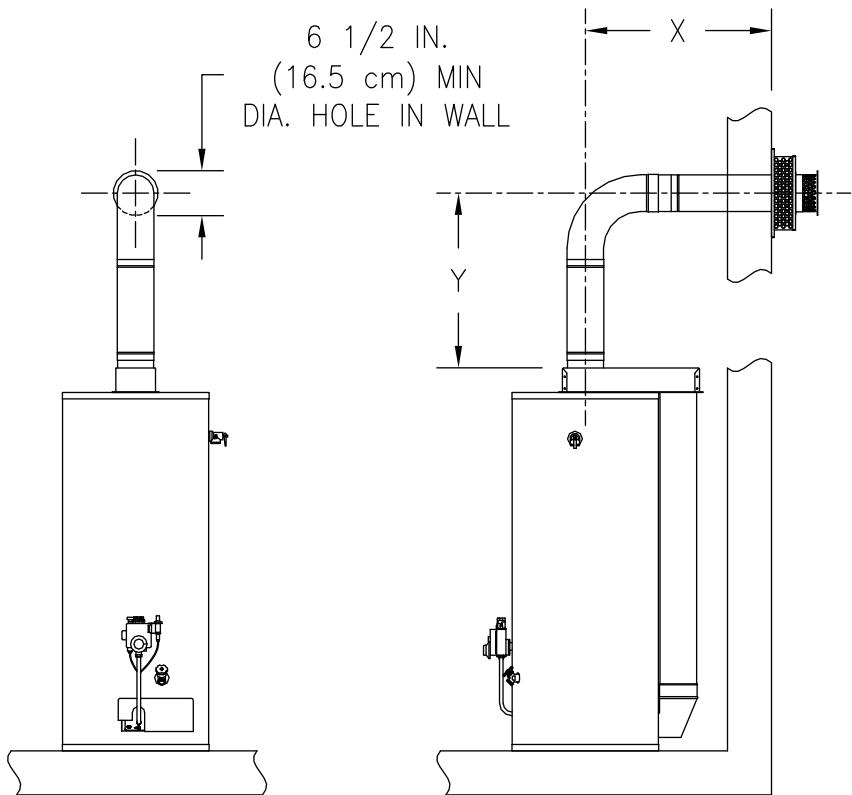

Figure 3
1. Measure the vertical height "Y" required in your installation. (See Figure 3). Reference the appropriate Table A to determine number of vent-air intake kits required in your installation.
2. Measure the horizontal length "X" required in your installation (See Figure 3). Reference Table A to determine number of vent-air intake kits required in your installation.